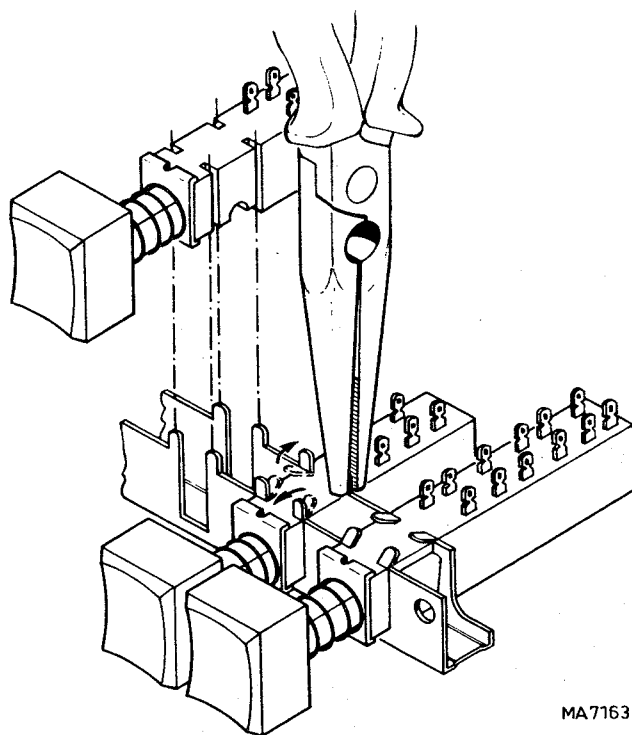

Fig. 3.21. Replacing a push-button switch
- Straighten the 4 retaining lugs of the relevant switches as shown in Fig. 3.21.